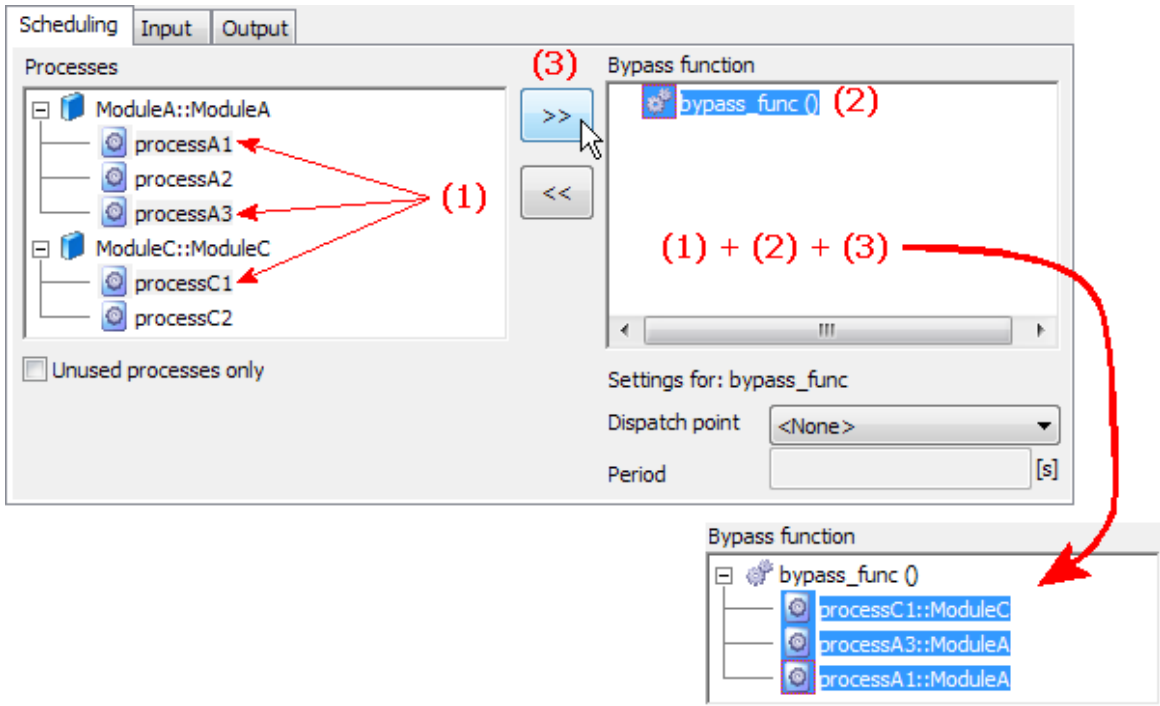

Figure 4.21: Mapping processes to bypass functions
- In the "Processes" field, select one or more processes ((1) in Figure 4.21 on page 41).
- In the "Bypass function" field, select one or more bypass functions ((2) in Figure 4.21 on page 41).
- Click the >> button ((3) in Figure 4.21 on page 41). The selected processes are assigned to the bypass function(s).